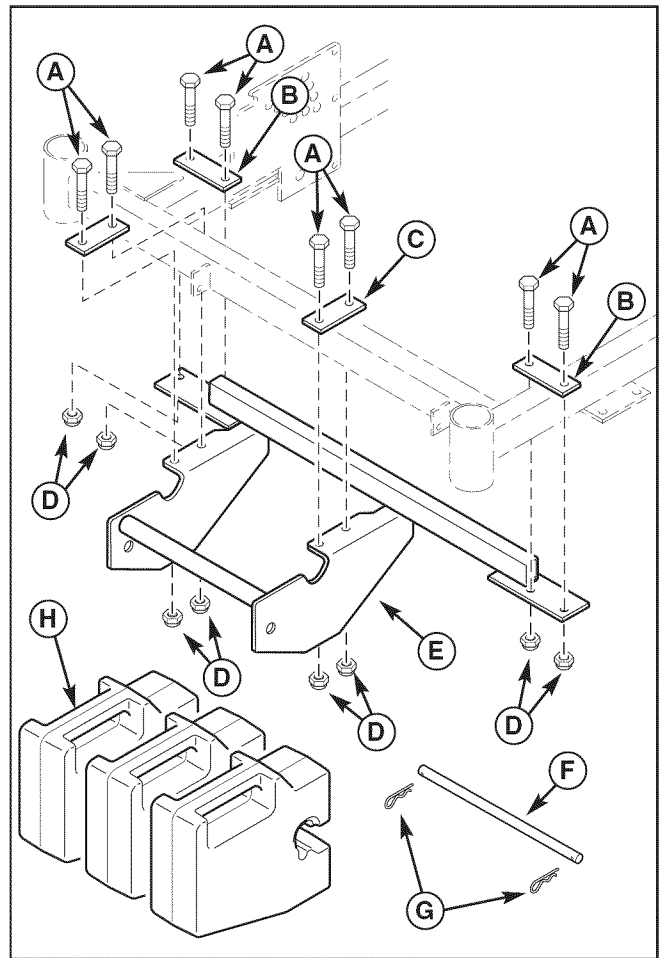

Figure 46. Install Weight Carrier
2. Install the weight carrier (E, Figure 46), mount plates (B & C) and fasten with the 3/8-16 x 3" bolts (A) and 3/8-16 nylon lock nuts (D). Tighten securely.
3. Install the counter weights (H) in the weight carrier and secure with the retaining pin (F) and hair pin clips (G).